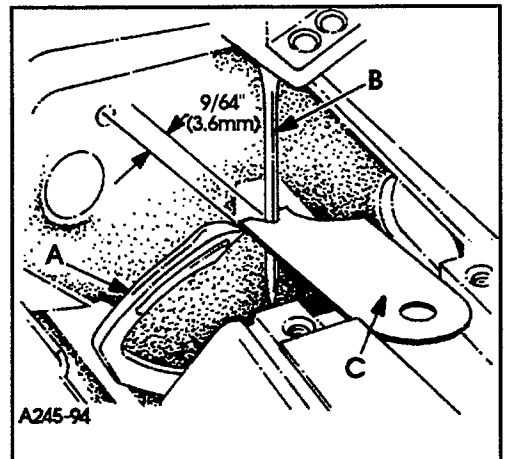
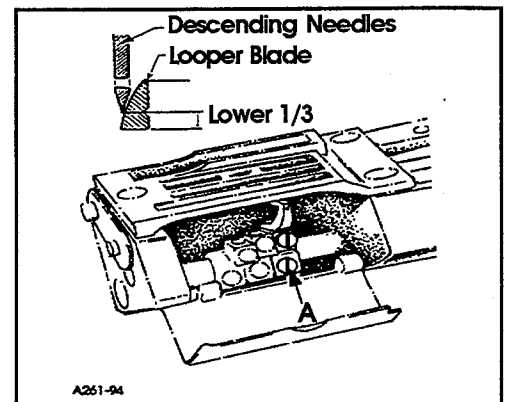

FIG. 6
FIG. 7
Insert a new set of needles, type and size specified. Always adjust the looper (A, Fig. 6) for the left needle first. Set the looper so that the distance from the center of the needle (B) to the point of the looper (A) is $9/64$ " (3.6mm) when the looper is at its farthest position to the left. Looper gauge (C) No. 21225-9/64 can be used advantageously in making this adjustment. If adjustment is required, loosen screw (A, Fig. 7) in looper holder, permitting movement in either direction to attain the $9/64$ " (3.6mm) dimension as shown in Fig. 6. Retighten screw (A, Fig. 7). Repeat for other needles and loopers.
Rotate handwheel in operating direction to assure that the looper point passes to the rear of the needle as close as possible without contacting. This adjustment can be made by loosening screw (A, Fig. 7) in looper holder. Looper holder can be moved front to back to attain looper to needle setting. Always check the $9/64$ " (3.6mm) looper gauge setting after setting the looper to the back of the needle, and conversely, always check the setting of the looper to the back of the needle after setting the $9/64$ " (3.6mm) looper gauge.
The looper avoid motion is adjustable and should be set so that the descending needle points contact the lower 1/3 of the back of the looper blade. (See Fig. 7).